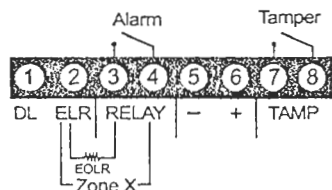

Figure 1: Terminal Block
- Connect the wires to the terminal block located on the right side of the PCB as shown in Figure 1.